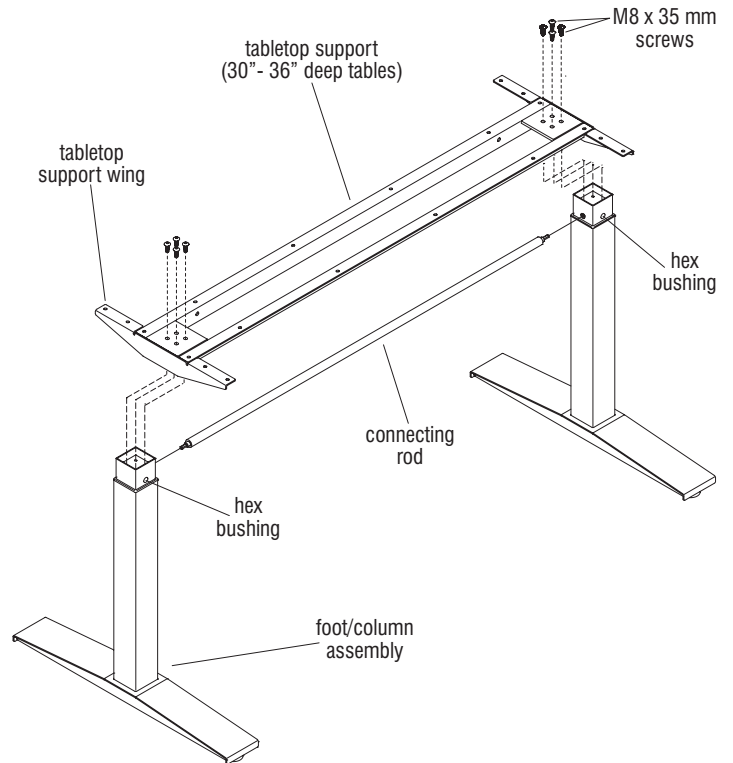

Figure 2 - 30"-36" Deep Tables
Note: Tabletop support wings are not present on tabletop supports for 22"-24" deep tables as illustrated in Details B & C. Tabletop support wings are only present on tabletop supports for 30"-36" deep tables as illustrated in Figures 2 & 3.
1. With the foot/column assemblies upright, place the connecting rod into the hex shaped holes on the inside of each column. At this time be sure the other hex bushing in each column is facing the same direction. This direction will become the front of the table. If the two remaining hex bushings are facing opposite directions, rotate one foot/column assembly so the two hex bushings are facing the same direction (Figure 2 & Detail B).
2. Place the foot/column assembly between the angle members of the tabletop support and align the four holes in one end of the support with the four holes in the column (Figure 2 & Detail B).
3. Attach the tabletop support using four M8 x 35 mm screws, tightening each screw one quarter turn at a time in a diagonal pattern until all four screws are tight (Figure 2, Details A & B).
4. Attach the second foot/column in the same manner (Figure 2 & Detail B).